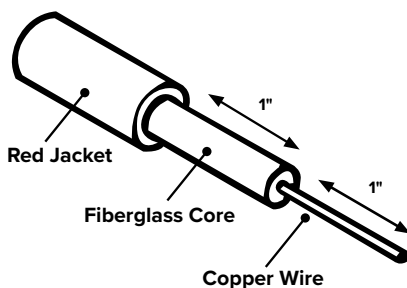

Fig. 1
2. Set drag brake to highest amount of drag (Fig. 1).
(Fig. 1)
2. Once jacket is removed, use pipe cutter again to score a mark around fiberglass core approximately 1" from edge of jacket. Use sharp knife to carefully strip away 1" of fiberglass core closest to rod end to expose copper wire. Be careful not to damage wire. The 1" portion of rod closest to jacket will remain intact (Fig.1).